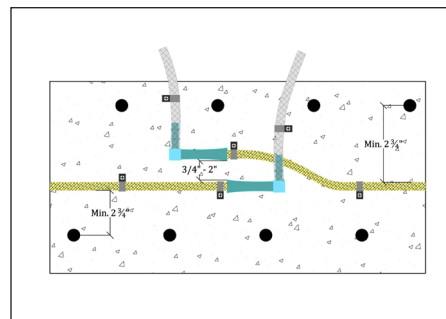

Figure 4
- Always terminate the yellow hose into a trumpet and allow for a minimum of 2.5" (6.3 cm) of concrete cover. Do not run the yellow hose outside the formwork. (Fig. 4)